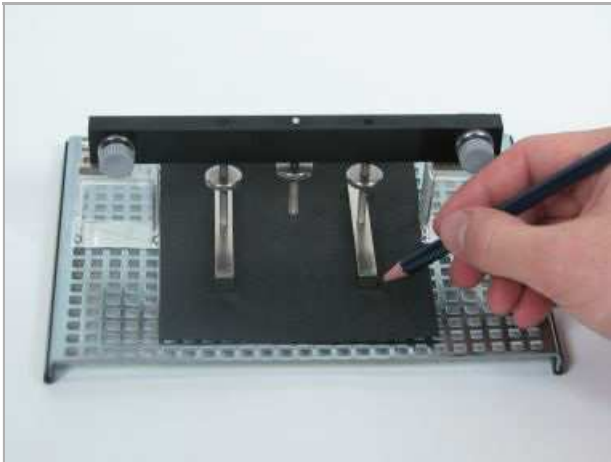

Fig. 9
- Draw the profiles of the electrodes on the carbon paper, loosen the knurled screws slightly and remove the carbon paper again (Fig. 9).